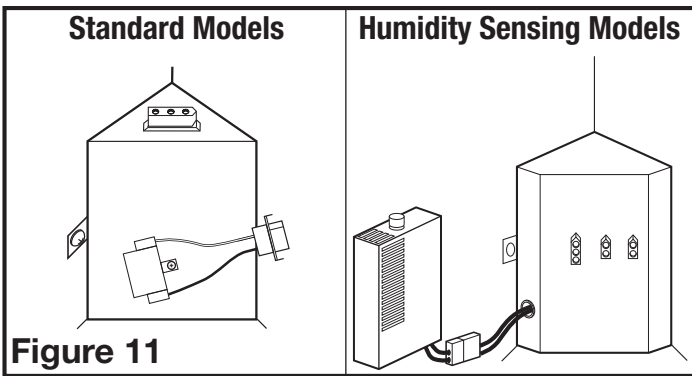

Figure 11
- 3a. **STANDARD MODELS:** Plug the fan's 2 pin and 3 pin quick connect motor cords into the corresponding receptacle located on the wire compartment cover. These cords will only fit one way into the receptacles (**Figure 11**).
3b. **HUMIDITY SENSING MODELS:** Plug the fan's 2 pin and 3 pin quick connect motor cords into the corresponding receptacle located on the wire compartment cover. Connect the two pin connector from the humidistat compartment to the two pin connector from the side of the wire compartment cover. These cords will only fit one way into the receptacles (Figure 11).